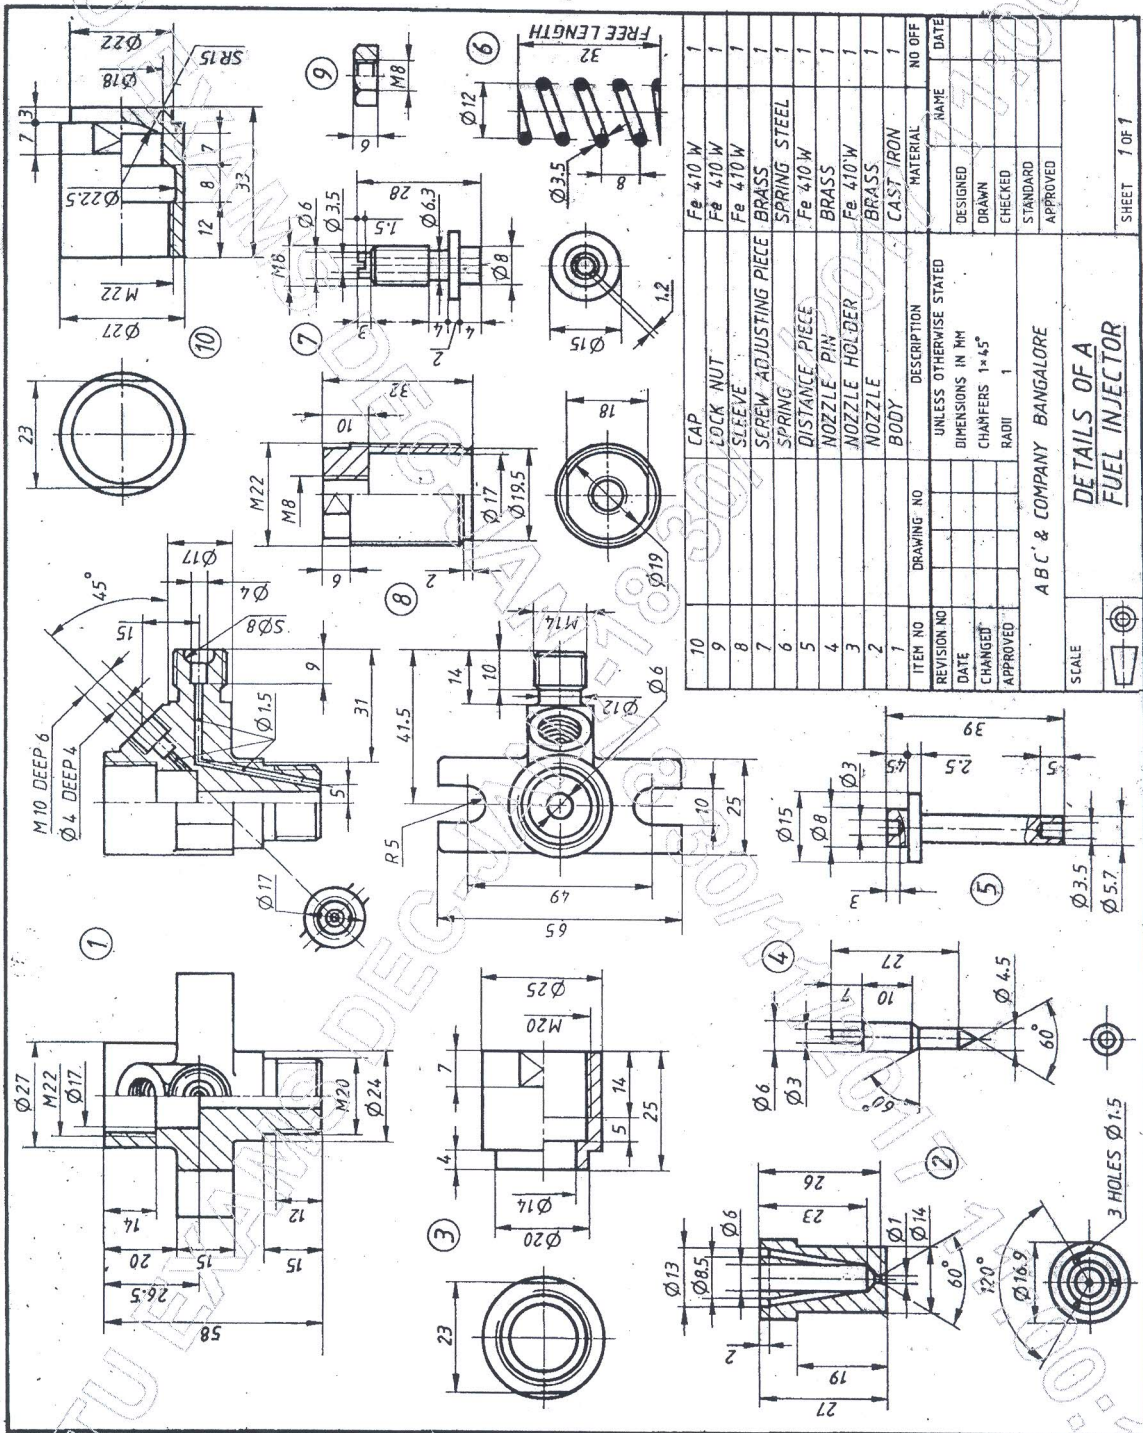

Figure 3
- Details of a Fuel Injector are shown in figure 3. Assemble the parts and draw the following views of the assembly: (i) Sectional front view and (ii) Top View.